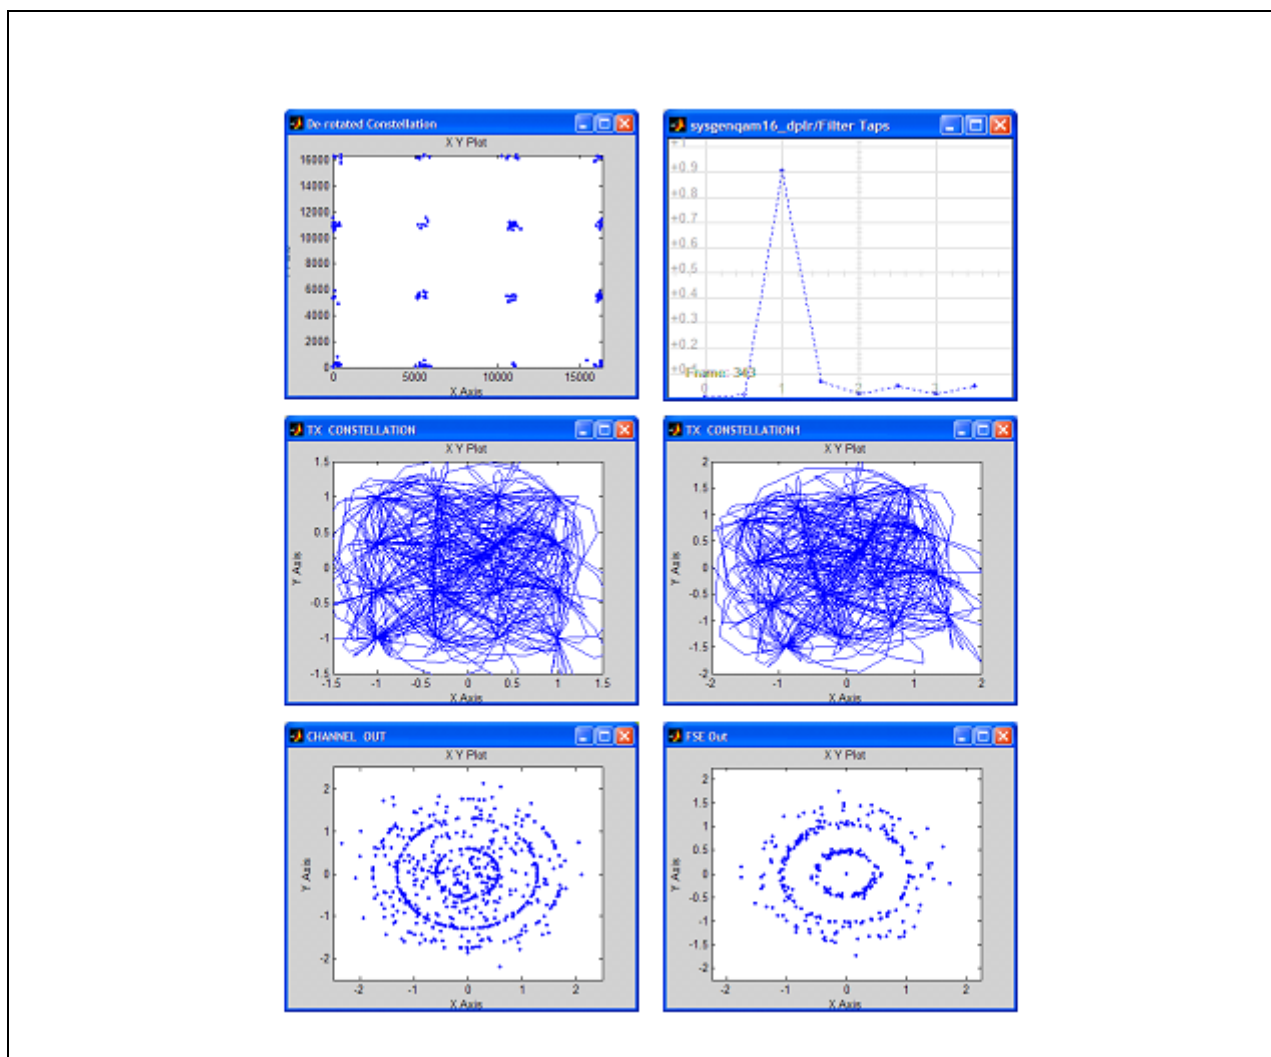

Figure 113: Simulink Simulation Output
3. Simulate the model by clicking on the 'Start simulation' icon shown right. At this point, without modifying the model, you should be able to see the plots shown in Figure 113 on page 194.